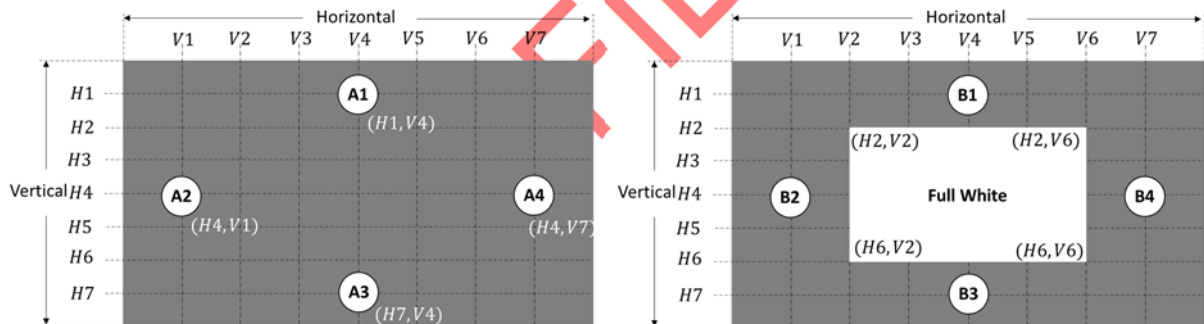

Fig 4.5 Definition of Crosstalk (2D)
(7) Definition of Crosstalk (2D)
Crosstalk of one area of the LCD surface by another shall be measured by comparing the luminance (A), with all display pixels set to a gray level, to the luminance (B) of that same area when any adjacent area is driven full white pattern which shown in Fig. 4.5. The gray level of background is set to 25% full gray pattern.
Crosstalk(%) = $\text{Max.} \left(\frac{|L_B(X) - L_A(X)|}{L_A(X)} \times 100\% \right)$, Where the X is point 1 to 4 shown in Fig.4.5